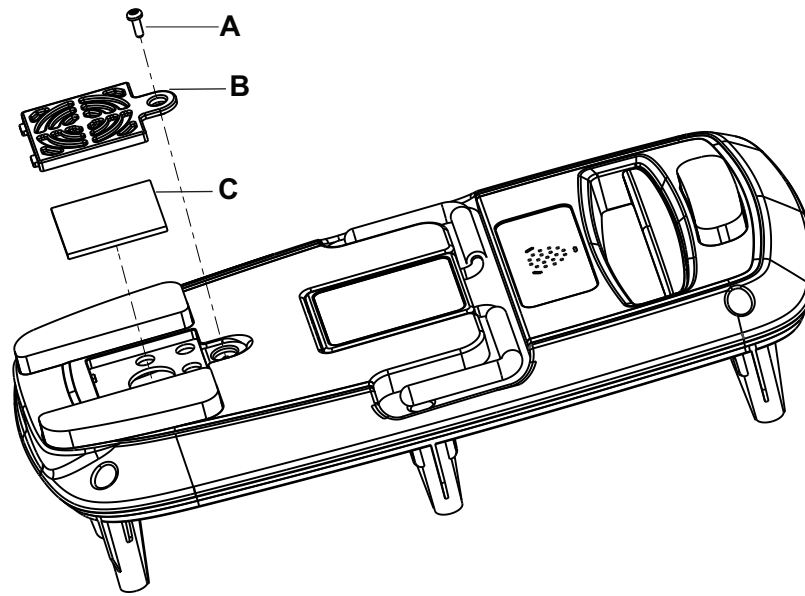

Figure 6 – Filter
4. Using a T20 Torx driver, remove the screw (A) that secures the filter access door (B) (Figure 6). Save the screw.